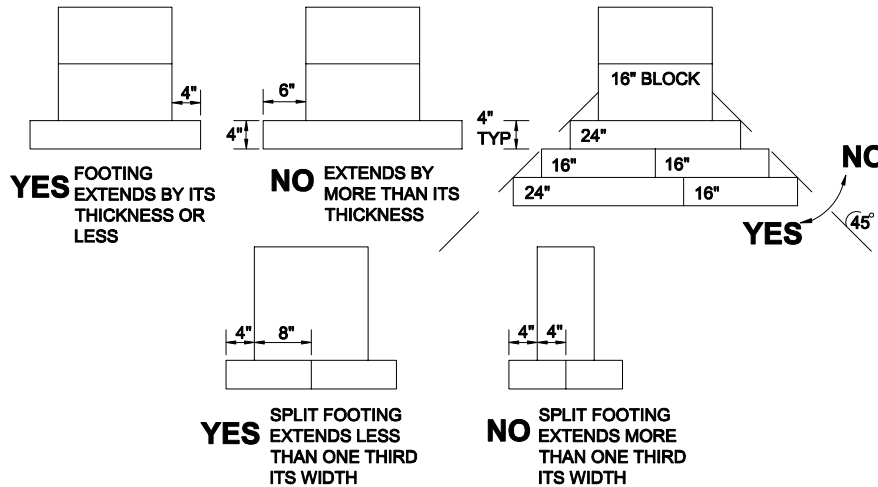

Figure 11. Maximum footing extensions
- Design footings with a footing extension (projection beyond the base of the pier) no greater than the footing thickness (**Figure 11**). Increase footing thickness if necessary.